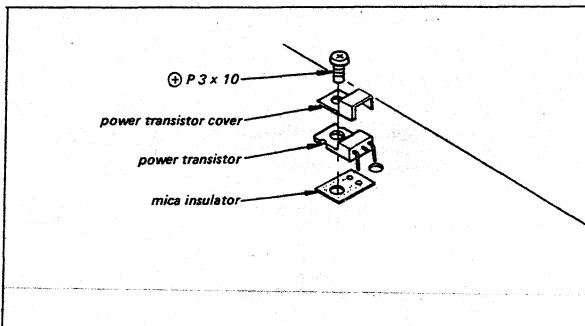

Fig. 2-8. Power transistor replacement
2. Remove the screw (\oplus P 3 x 10) securing the power transistor to the heat sink as shown in Fig. 2-8.